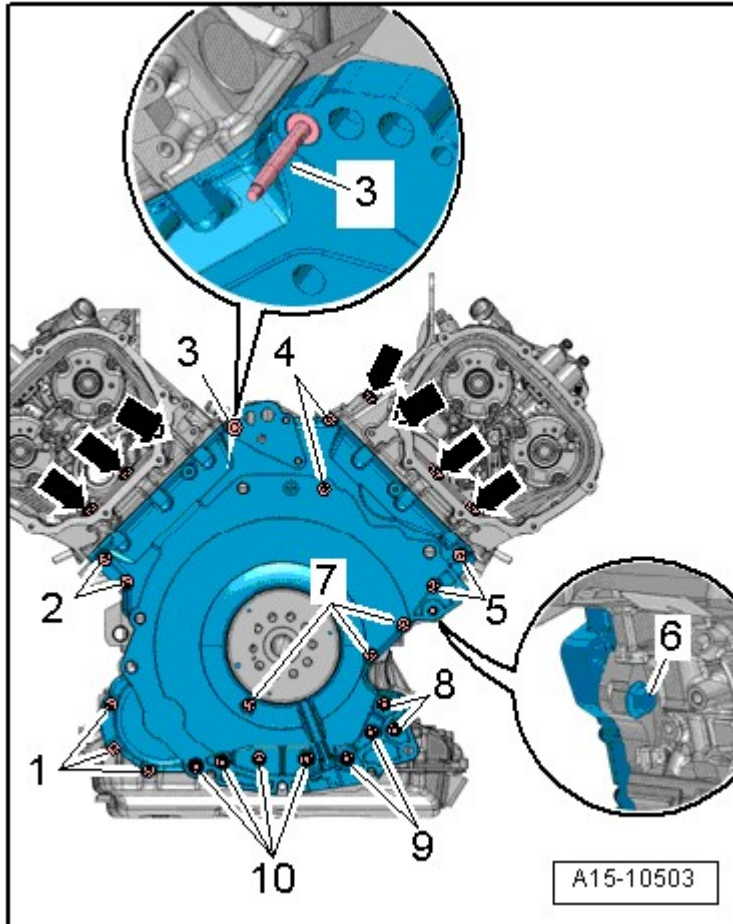

Fig. 4: Lower Timing Chain Cover Bolt Tightening Sequence & Specification
- Tightening specification and sequence **Fig. 4**